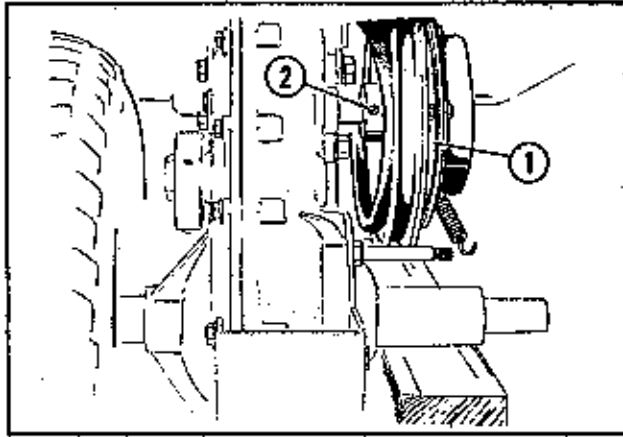
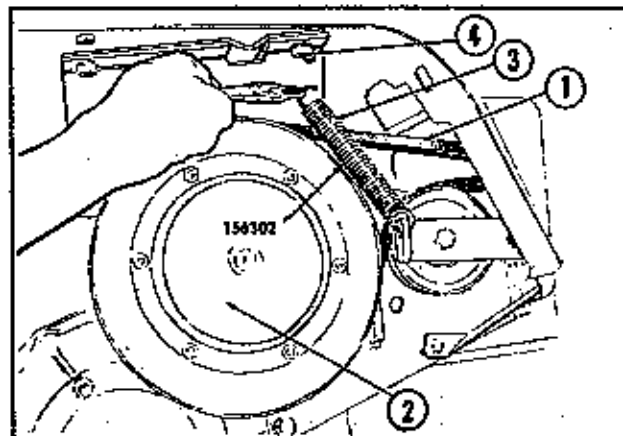

Figure 7
Figure 8
3. Place the two-speed pulley assembly #1, Fig. 7, on the transmission pulley shaft, and lock in place with the set-screw #2, Fig. 7, in the pulley hub. Be sure to maintain a clearance of at least 1/8" between the pulley hub and the transmission. Notice that the hub of the pulley faces toward the transmission. Place the V-belt over the two-speed pulley #2, Fig. 8, and replace the idler tension spring #3, Fig. 8, in the hole #4, Fig. 8 as shown, to engage the idler pulley with the transmission drive belt.